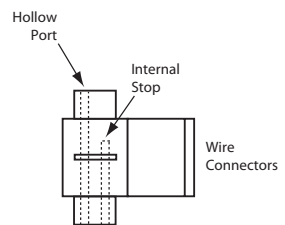
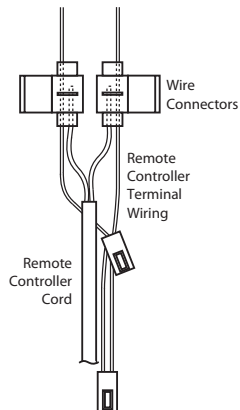

Figure 3: Wire Connector
Figure 4: Remote Controller Cord Spliced to Terminal Wiring Using Wire Connectors
- 4) Using the provided red Wire Connectors (Figure 3), tap the wires from the Remote Controller cord into the Remote Controller Terminal wires from the Circuit Board as shown in Figure 4. When splicing, insert one of the two Remote Controller Terminal Wires into the hollow side on a connector. Insert the other wire into the hollow side of the second connector. The wires from the Remote Controller cord are inserted completely into the remaining ports with the internal stop.